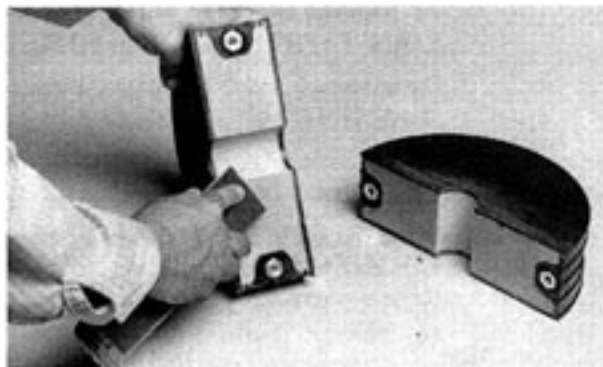

Figure 14 — Scuffing Cable Opening Area
6.11 Use emery cloth provided to remove sharp edges on plastic and foam in area of opening (Figure 14). *Scuff Lightly* DO NOT REMOVE TOO MUCH MATERIAL.